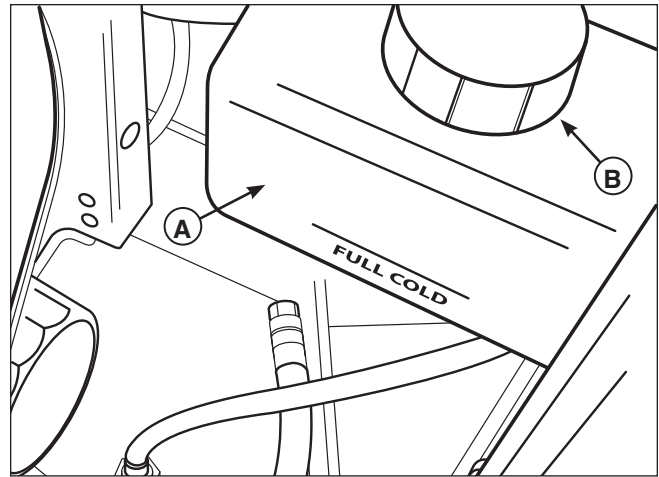

Figure 19. Checking Hydraulic Oil Level
1. Check the oil level when the unit is cold. The oil should be up to the “FULL COLD” mark on the transmission oil reservoirs (A, Figure 19). If the oil is below this level proceed to step 2.